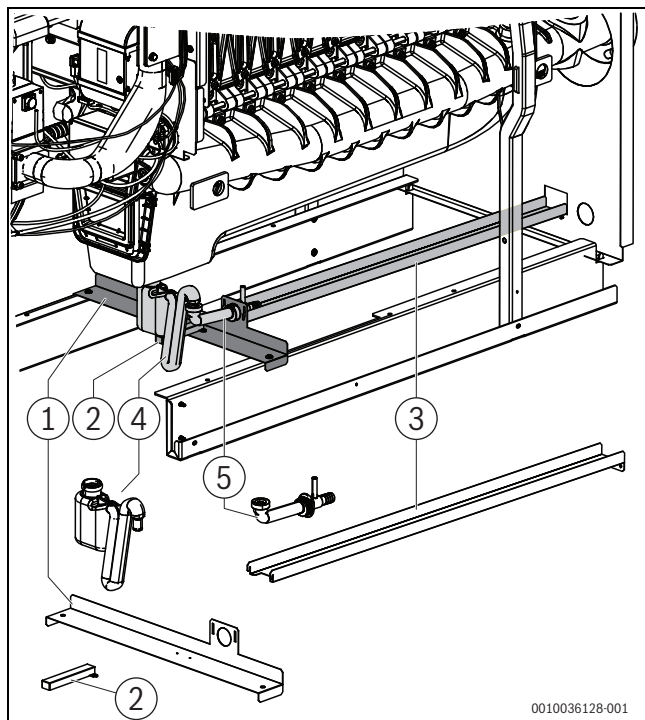

Fig. 22 Installing the condensate pipes
- Screw the siphon support panel (→ Fig. 22, [2]) on the siphon bracket [1] and assemble together on the cross beams.
- Hang the hose bracket (→ Fig. 22, [3]) into the siphon bracket and screw onto the rear panel of the boiler.
As an alternative, the boiler can be equipped with a condensate neutraliser (accessory) for the neutralisation of the condensate. The condensate neutraliser is positioned under the boiler instead of the hose bracket (→ Fig. 22).